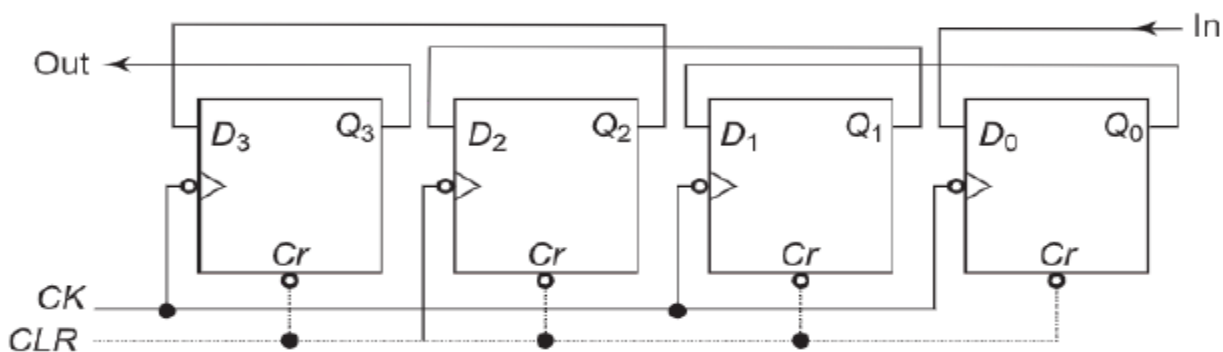

Fig. 2.19: Register shift left
- Input data can be shifted from left (FF0) to right (FF3) by one bit on the occurrence of clock pulse by feeding output of FF0 (Q_0) to input of FF1 (D_1), and FF1 to FF2, FF2 to FF3. This logic is shown in figure 2.19.